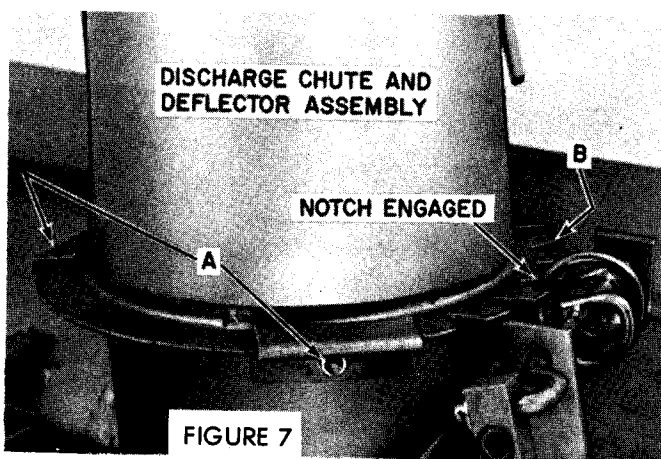

FIGURE 7
1. Apply a light coating of grease to the underside of chute base ring and position on the chute and deflector assembly on the auger housing as shown in Figure 7. The notches in the chute base must engage the spiral control as shown.
Place the three chute guides over the base ring as shown in Figure 7 and align the holes in the guides with the holes provided in the auger housing. Secure with 5/16" x 3/4" carriage bolts, lockwashers and nuts. Install nuts to the outside at Point A. Install nut to the inside at Point B.